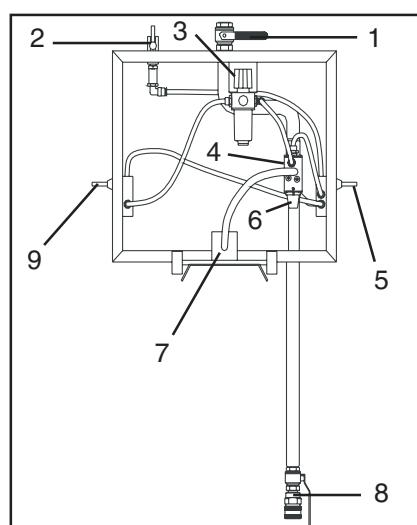

Fig. 7
**S3000, S3000 U, S3100, S3100 U (fig. 7, User Pack).**